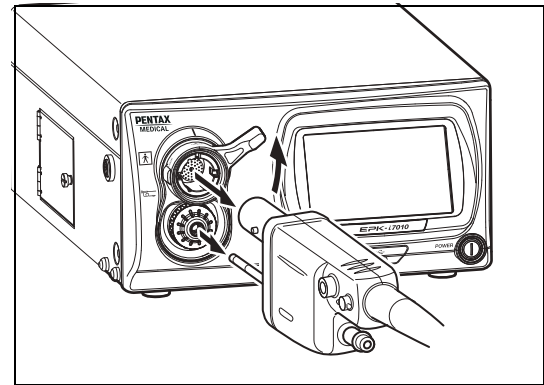

Figure 6.1
- 3 Disconnect the power plug, endoscope, and water bottle assembly. (Refer to Figure 6.1.)